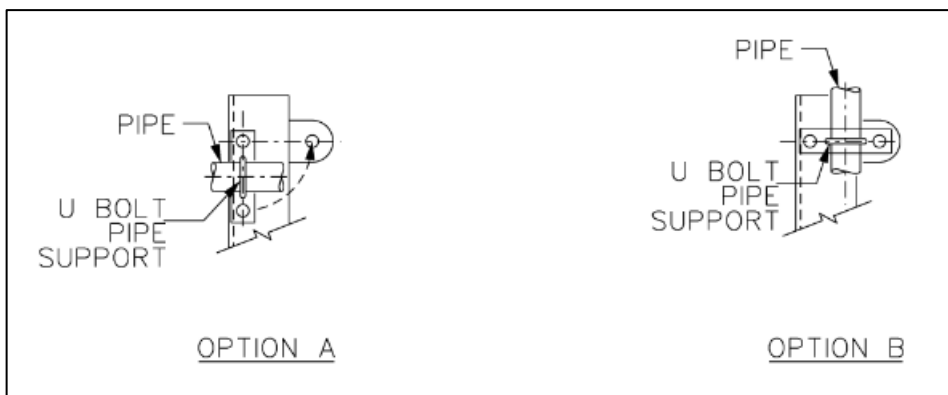

Figure 4. U-Bolt Detail
2. Meter set outlet piping must be attached using insulated U-bolt and insulating pad that is provided with the meter stake. Piping can be attached per Option A or B as shown in Figure 4.